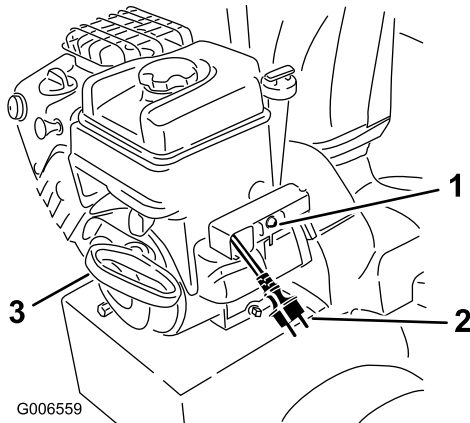

Figure 32
7. Start the machine pulling the recoil starter or pressing the electric-starter button (all models except 38597) (Figure 32).